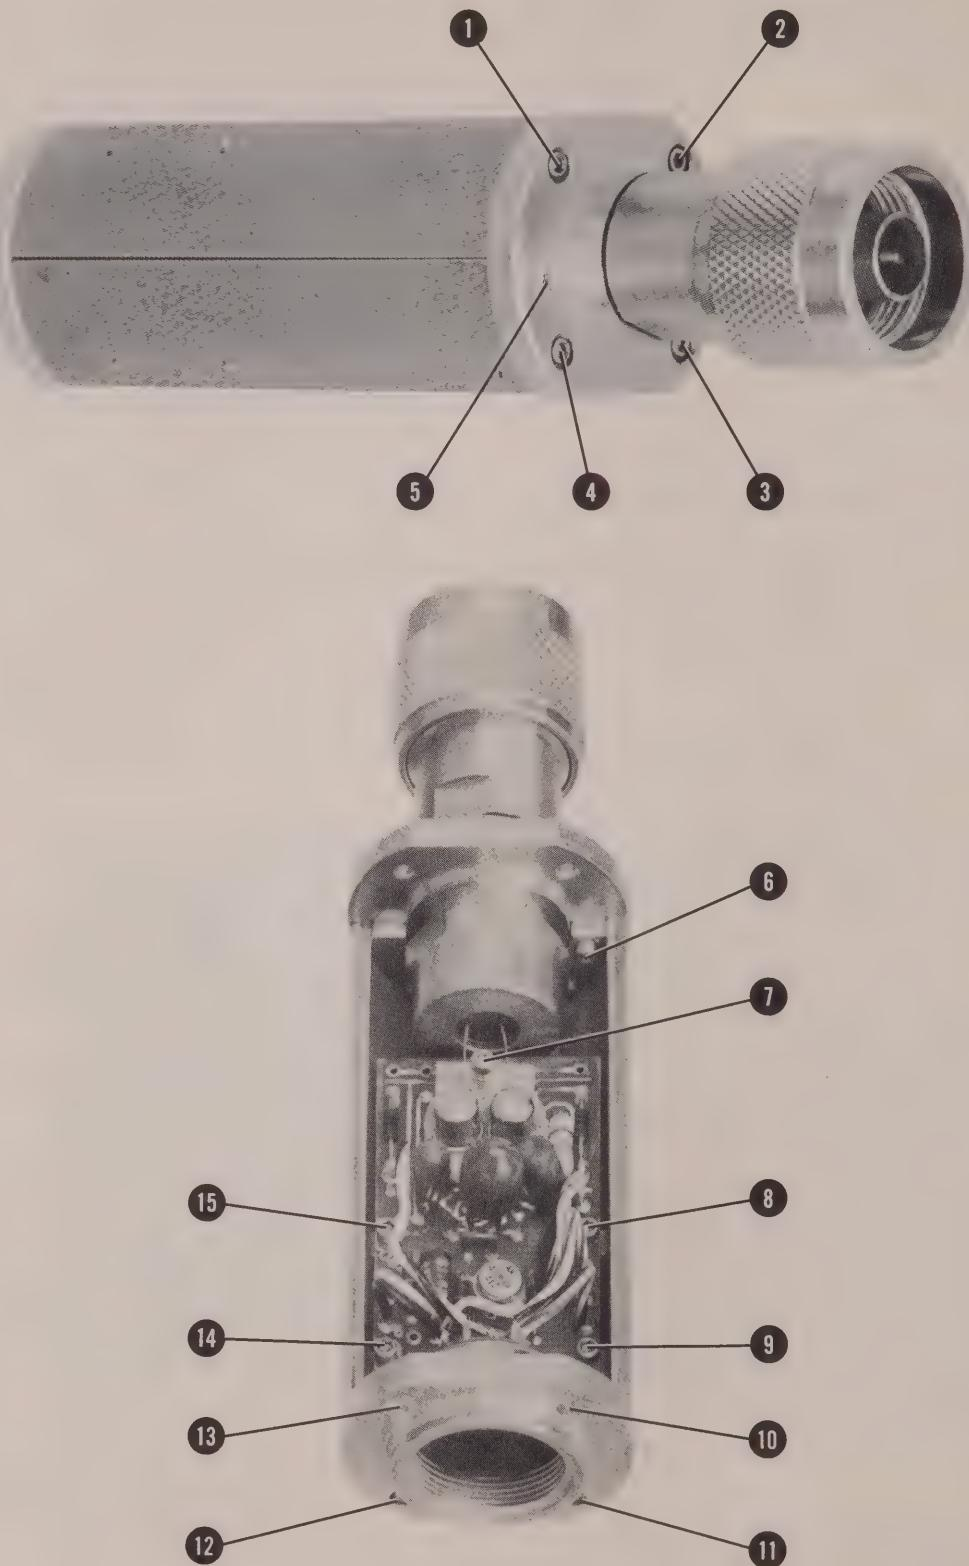

Figure 8. Power Sensor Hardware Locations
- Position the Power Sensor as shown in Figure 8 (top). The small hole ⑤ should be on the left side of the RF input connector. Remove the allen cap screws ①, ②, ⑩, and ⑬. Loosen ⑪ and ⑫. Remove the upper chassis from the Power Sensor.
- Cap screws 8, 9, 11, 12, 14, and 15 must be inserted but not tightened. Refer to Figure 8.